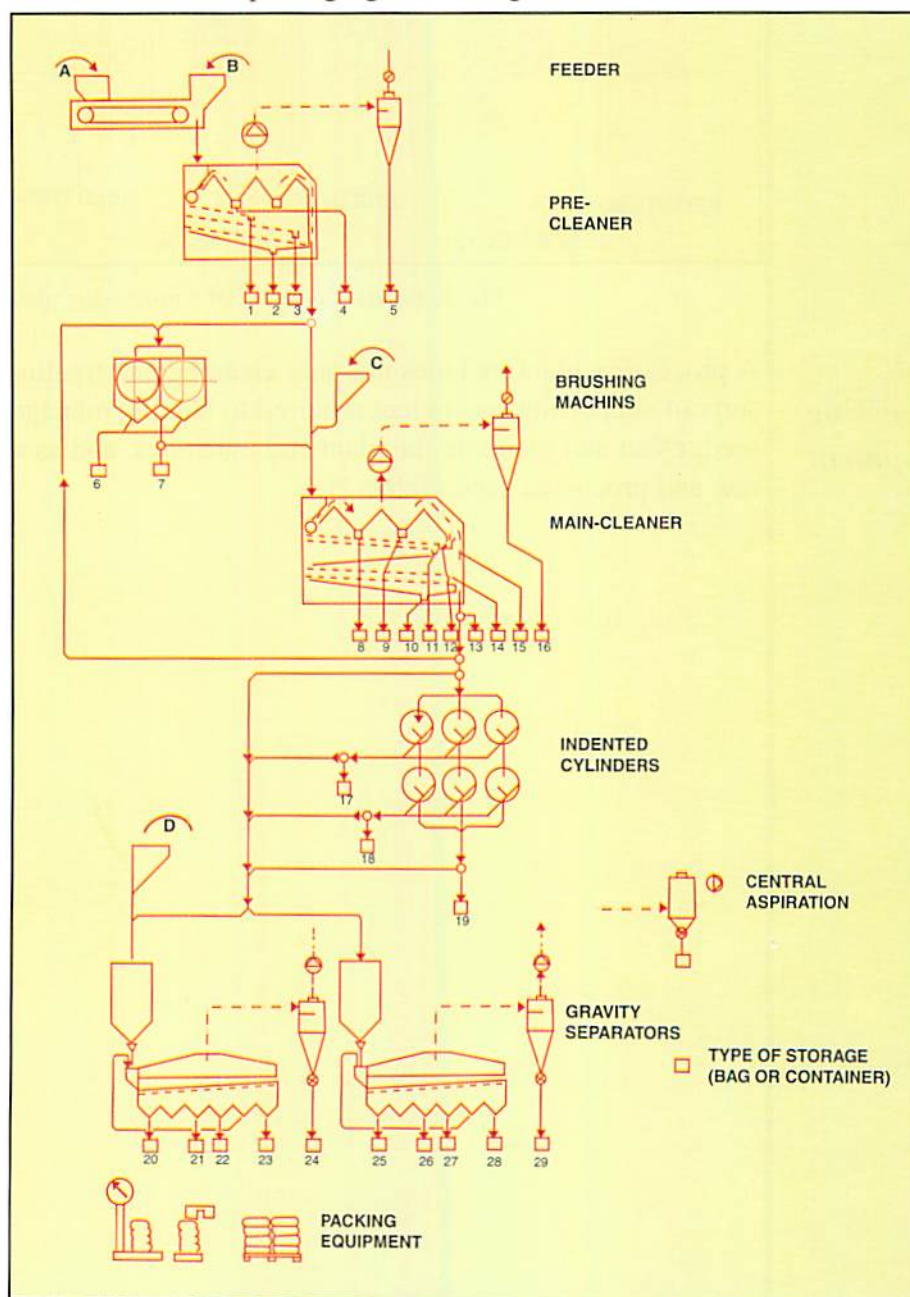

Fig. 7. Vertical layout of a processing plant
1. **Vertical (Fig. 7):** In this type of plant, machines are put in different floors in a multistoried building. The incoming seeds are first elevated to bins on the top floor and allowed to fall by gravity from machine on one floor to the other machine for the next operation. The ground floor is reserved for seed packaging and storage.